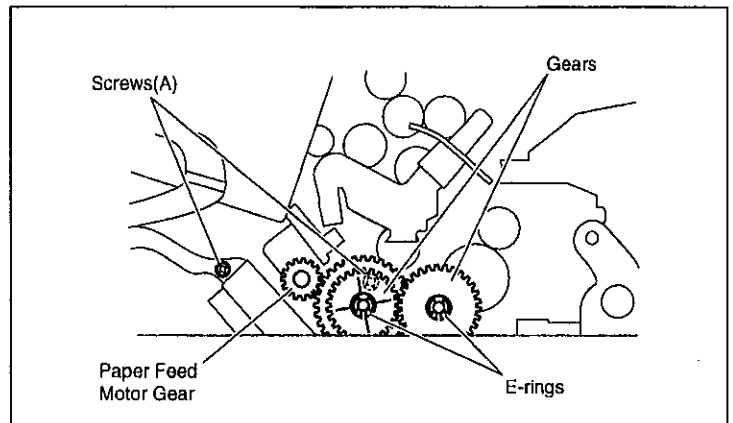

Fig. 8-43
- 6) Remove 2 screws(A) as shown in Fig. 8-43.